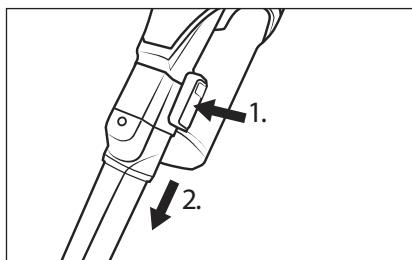

Fig. 15
- ◆ To remove the accessory, press and hold the release button on the accessory, then pull the accessory off the suction pipe ⑭ or the suction opening of the appliance (see Fig. 15).